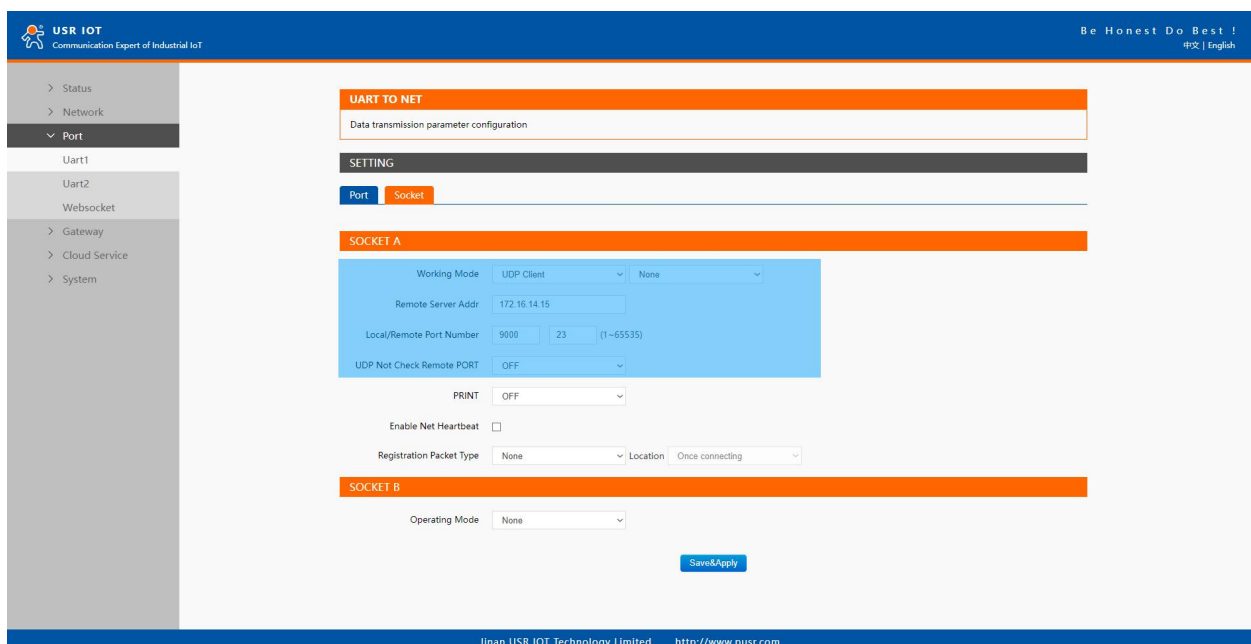

Fig. 44 UDP client work mode
When the working mode of the device is UDP client, the remote device must also work in UDP mode. M100 supports remote IP address and port verification. After verification is enabled(OFF), the M100 only communicates with the destination port of the destination IP address. If the data is not from this channel, the M100 will discard the data. If verification is disabled(ON), M100 does not filter the data of the destination IP address and destination port. Fig.44 shows an example of configuration setting for UDP Client mode under the Uart1 socket page. You can configure other serial ports in the same way.
1. Click on the "Uart1" tab on the menu frame on the left side of Web UI to go to Uart1 page as shown in Fig.44.